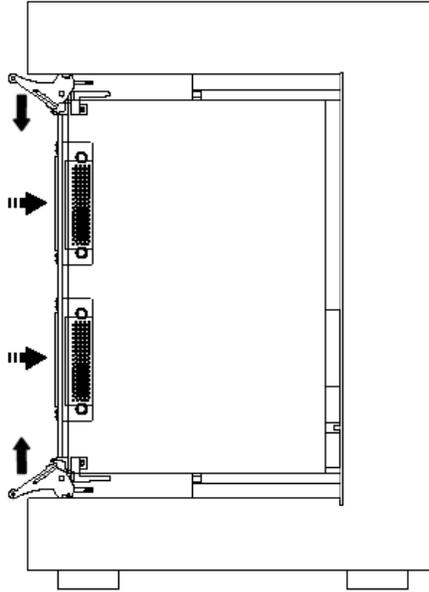

Figure 3-6: Ejector handles position after module insertion
5. After you feel resistance, push in the ejector handles as shown in Figure 3-6 to secure the module into the frame.